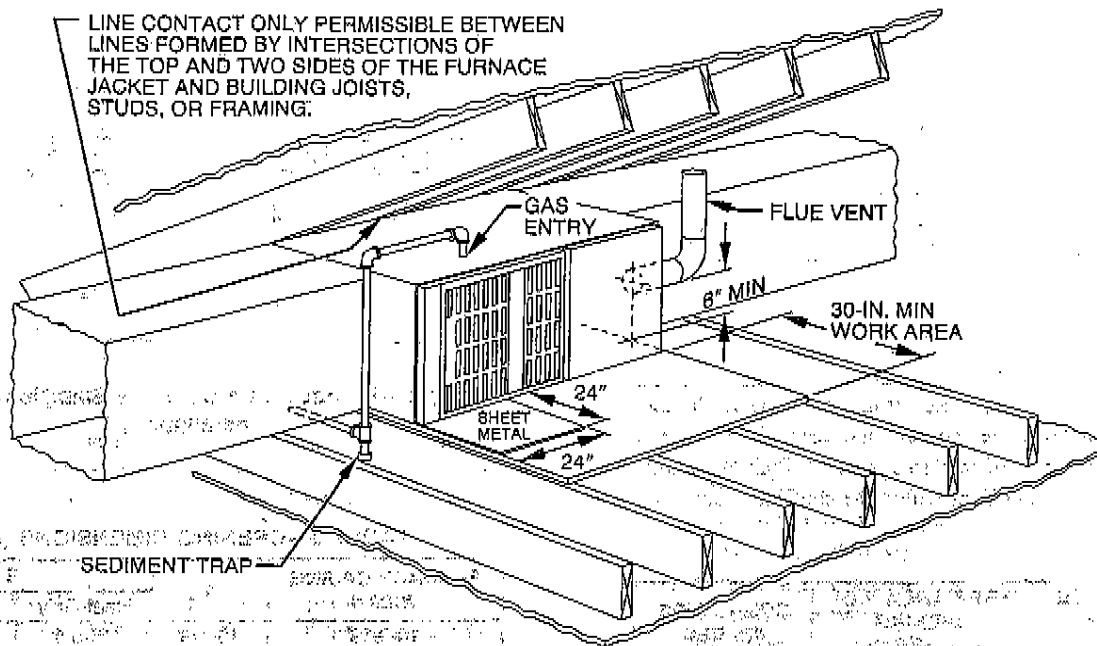

Fig. 7—Typical Attic Installation
The furnace can be installed horizontally on either the left-hand (LH) or right-hand (RH) side. A typical attic installation is shown in Fig. 7.
Construct working platform on location where all required furnace clearances are obtainable. (See Table 1 and Fig. 7.)
2. Connect gas supply pipe. See Fig. 7 for typical piping entry.
5. Install 24" X 24-in. sheet metal shield on platform in front of louvered control panel as shown in Fig. 7.